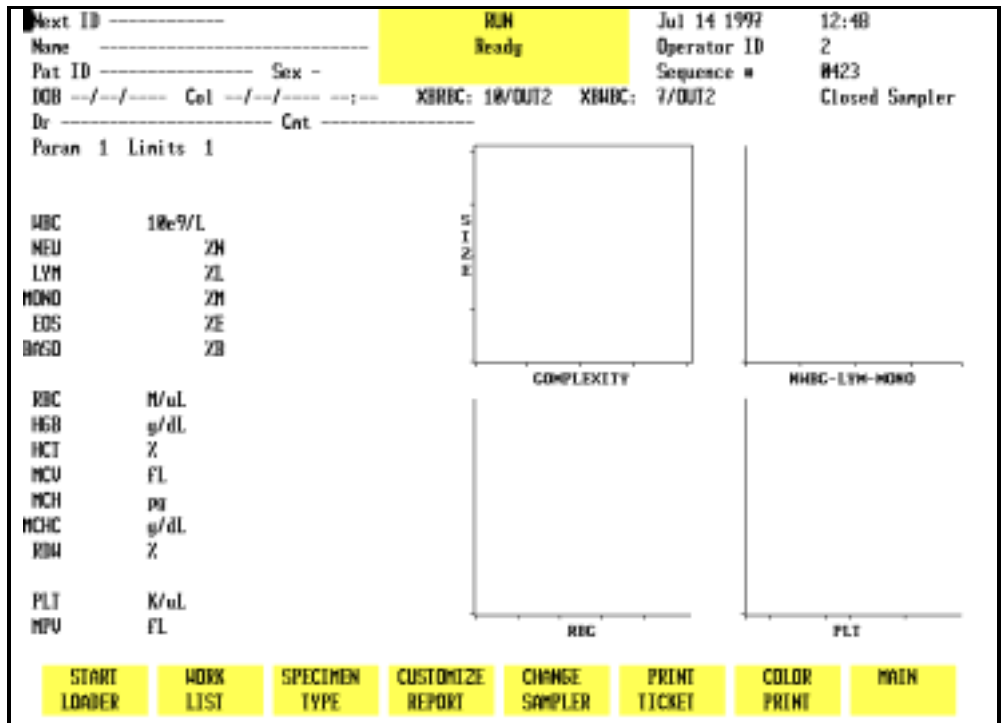

Figure 13.5: CELL-DYN 3200SL RUN Screen
The RUN Screens for the 3200SL model, shown in Figures 13.5 and 13.6, are slightly different from the screen for the 3200CS model.
1. The [START LOADER/STOP LOADER] key in the first position (refer to Figure 13.5).